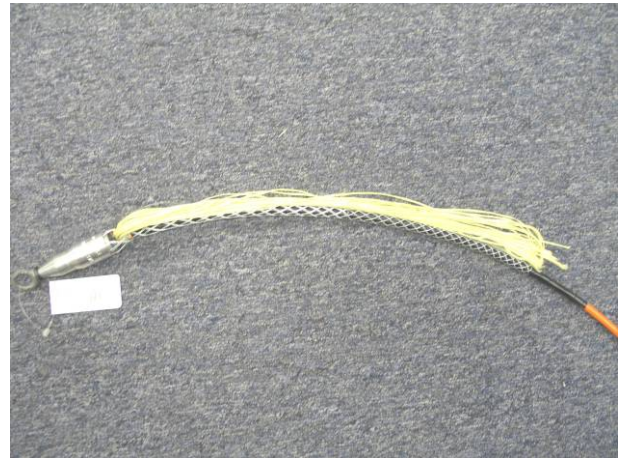

Figure 13: Buffers and Central Member Removed and Strength Elements Folded Back On Pulling Grip
Step 7: The buffers and central member should then be cut off leaving only the aramid yarn strength elements. The strength element should then be folded back onto the grip (See Figure 13).